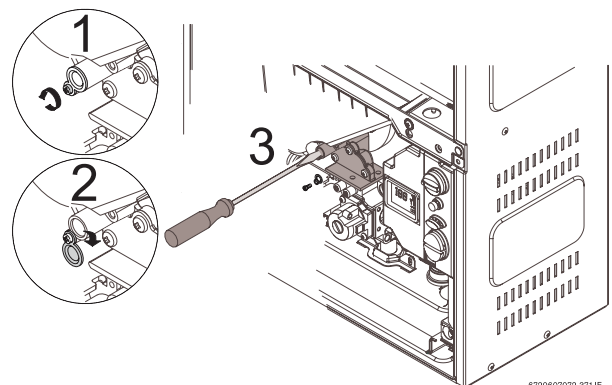

Fig. 42 Adjusting P1 CO2 level
- ▶ Loosen yellow painted philips screw (1) and cover should rotate down (2) revealing a recessed brass slotted screw. Fig. 42.